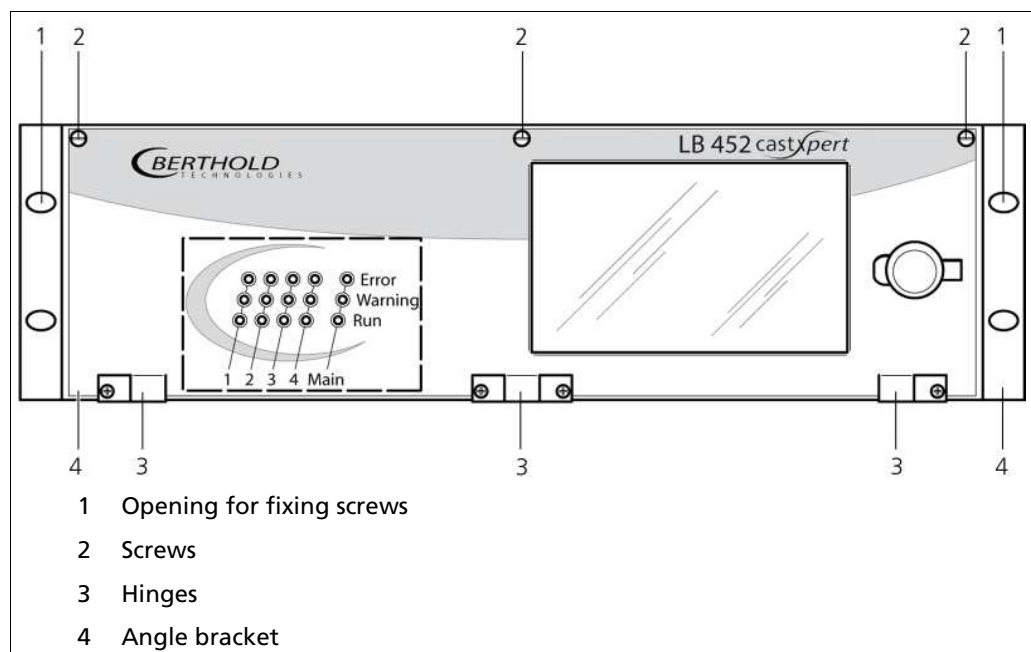

Fig. 11 Assembly Front View
2. Loosen the three screws (Fig. 11, Pos. 2) on the front panel
2. Loosen the three screws on the front panel (Fig. 11, Pos. 2).
2. Loosen the screws on the front panel (Fig. 11, Pos. 2) and fold down the front panel.